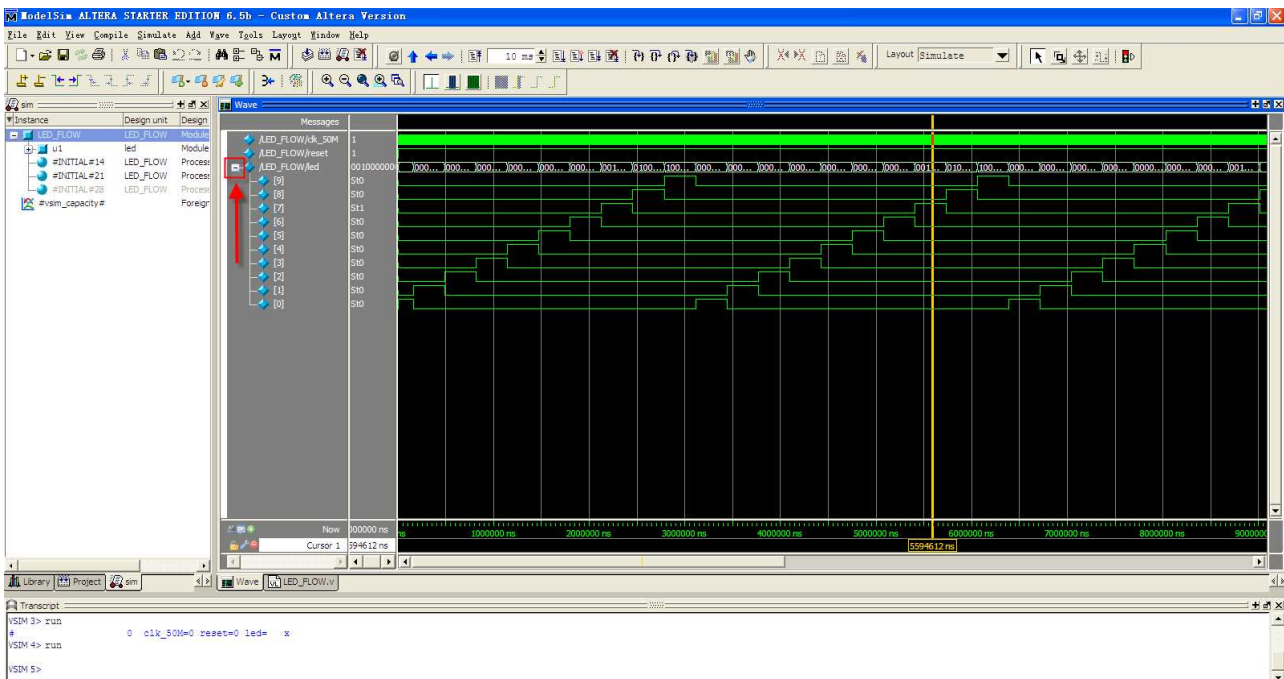

Figure 3.9 Expand the wave
10. Click on the **+** button pointed by a red arrow to expand the **LED\_FLOW** wave, shown in Figure 3.9.